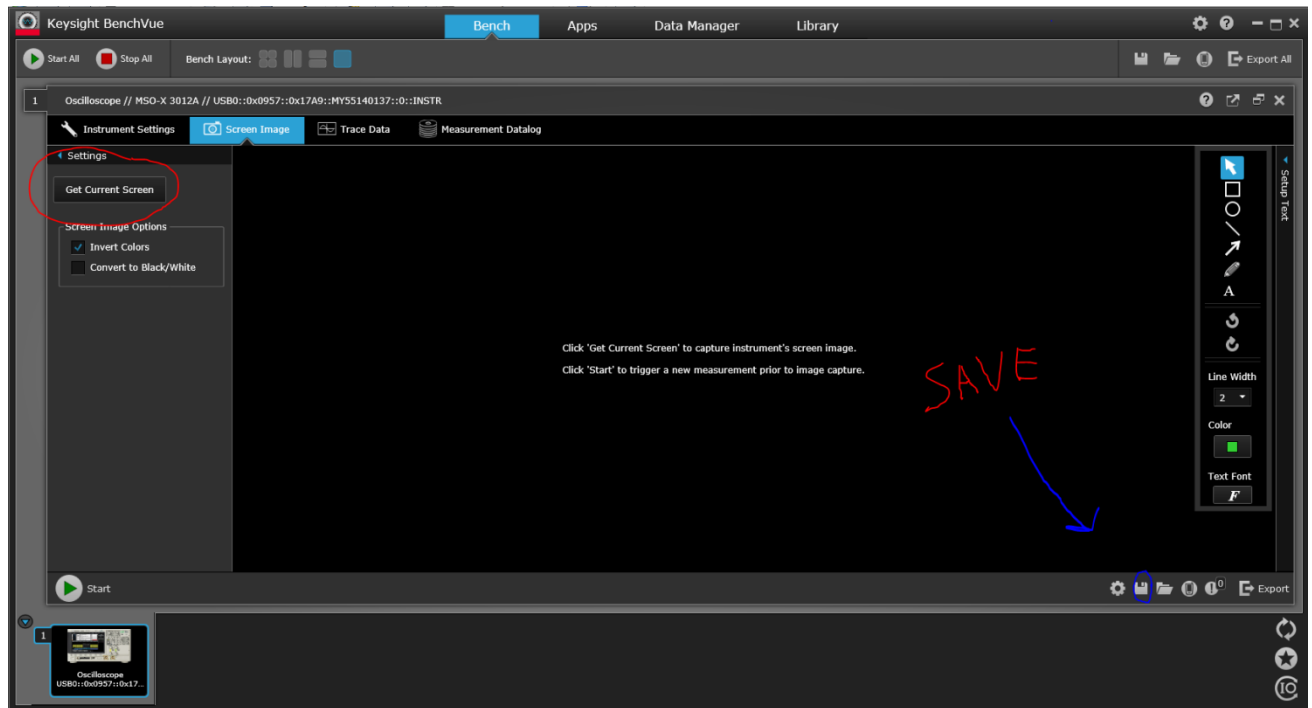

Figure 12. BenchVue Utility Graphical User Interface (GUI)
3. The oscilloscope icon should appear at the bottom right of the BenchVue welcome screen if there is an established connection between the computer and MSO. Double-click this icon to bring up the main screen of the BenchVue utility. See Figure 12 for reference.
4. In order to capture the waveform/s displayed on the oscilloscope, the 'Get Current Screen' button shown at the top left of the BenchVue interface must be selected. The button is circled in Red in Figure 12.
5. To save a waveform once it has been captured to the BenchVue utility, select the save icon at the bottom right of the screen and then select 'Save Image'. The icon is circled in blue in Figure 12.